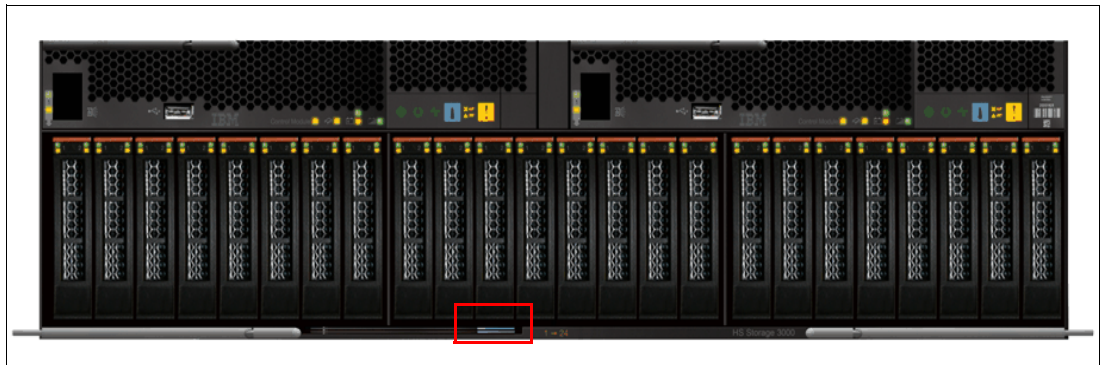

Figure 13-1 Locate MTM information from an IBM Flex System V7000 Storage Node enclosure
**Tip:** To obtain the correct machine type, model number, and serial number from an IBM Flex System V7000 Storage Node enclosure before contacting IBM Support for service, locate a set of blue pull-out tabs on the front of a 4939 enclosure, as shown in Figure 13-1.